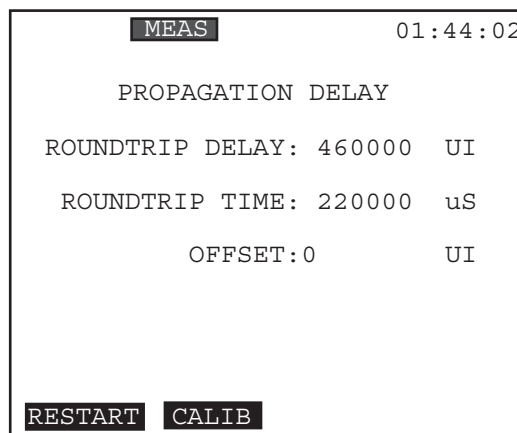

Figure 51 Propagation Delay
- View the propagation delay of a looped back signal. See Figure 51.